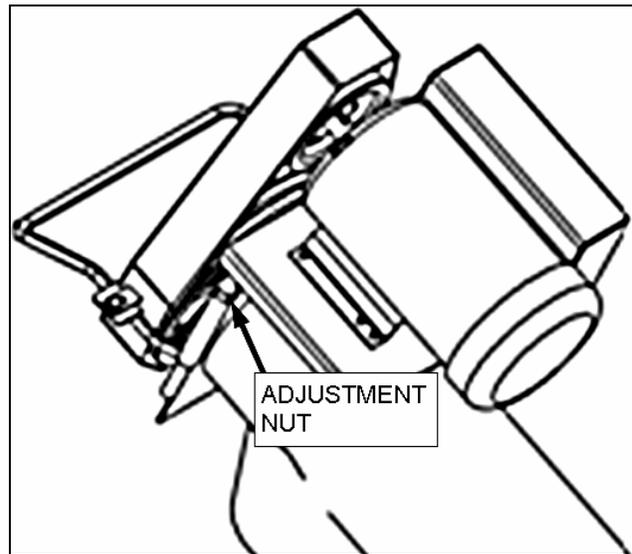

Figure 6.4
- If the drive belts are slipping, the belt should be tightened by turning the adjustment nuts clockwise (see Figure 6.4) until the belt is tight enough so that it does not slip.
- If the drive belts have been over-tightened, the belts will wear quickly and extra stress will be placed on the pulleys. In this case, the belt tension should be lessened by turning the adjustment nuts counter-clockwise (see Figure 6.4).